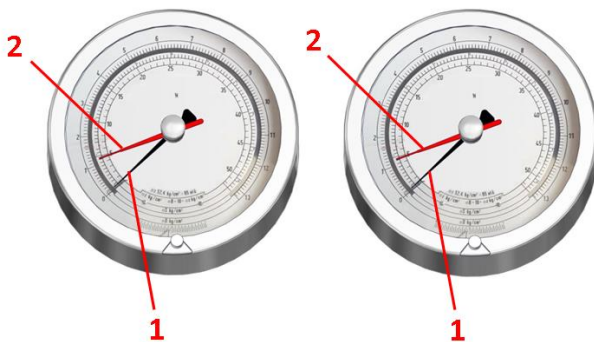

Figure 5.6.1
1. Manually set the red Pressure Indicator Follower (Item 2, Figure 5.6.1) on the pressure gauge to zero.